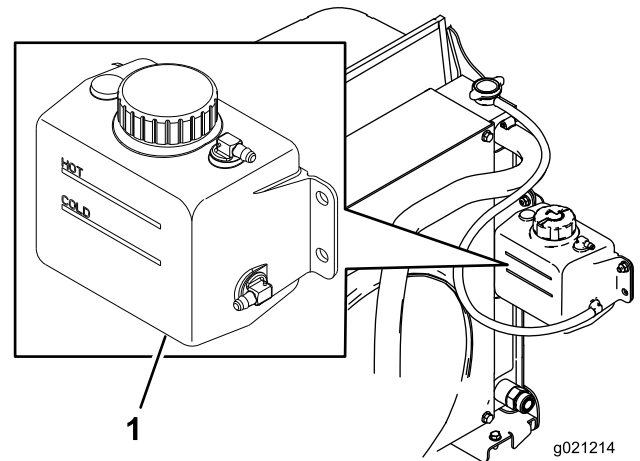

Figure 27
1. Check the level of coolant in the expansion tank (Figure 27).